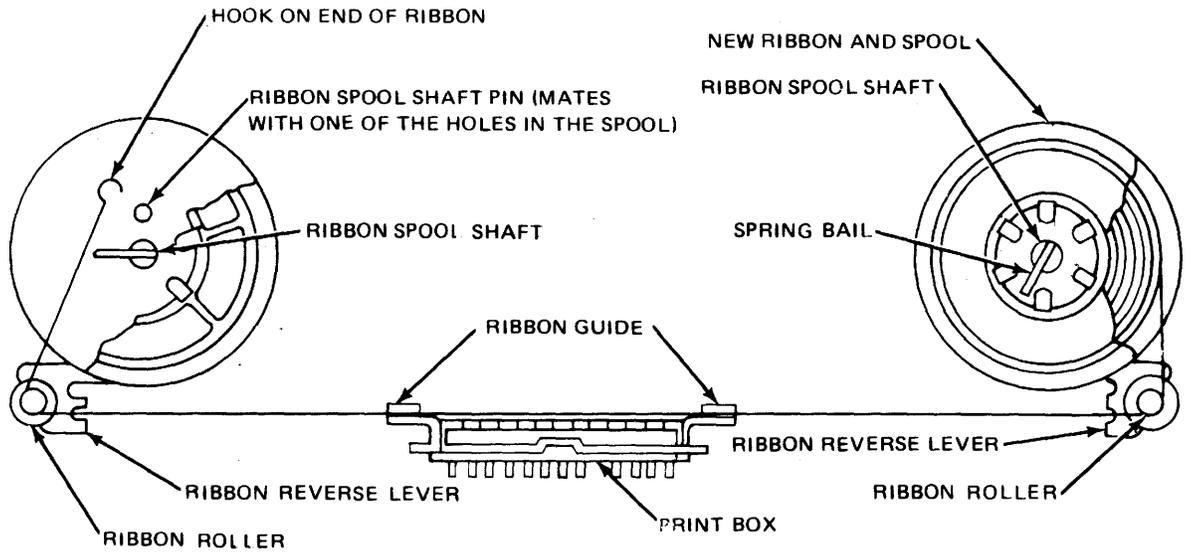

Figure 6-46. Path of Printer Ribbon (Top View).
6-48. Printer Ribbon Removal and Replacement. To replace printer ribbon, see figures 6-46 and 6-47, and proceed as follows:
The reverse levers can be used to shift direction in which ribbon is wound (see figure 6-46).
g. Place spools on centering shafts so that ribbon feeds to rear from right side of right spool and from left side of left spool (see figure 6-46).